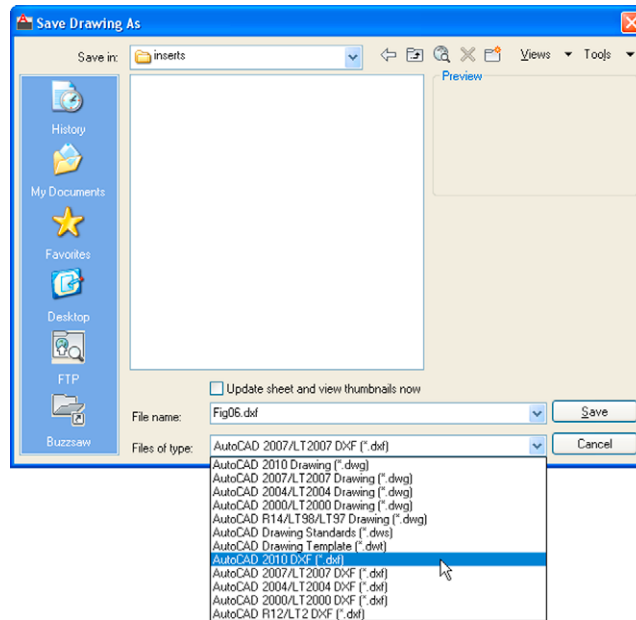

Fig. 10.7 The **Save Drawing As** dialog set to save drawings in **DXF** format
Example – DXF file (Fig. 10.7)
3. Enter a suitable file name. In this example this is **Fig06.dxf**. The extension **.dxf** is automatically included when the **Save** button of the dialog is clicked (Fig. 10.7).